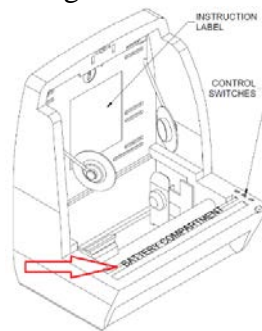

Fig. 3
3. If using mechanism for battery operation, install 8372 mechanism with four (4) 1/4-20x3/8 Phillips pan head screws through slots marked  into tapped holes in cabinet back and continue onto step 4 below.
5. The battery compartment is located at the front lip of the mechanism (Fig. 3). The cover to the battery compartment is removed by pushing the left hand tab inward and lifting up.